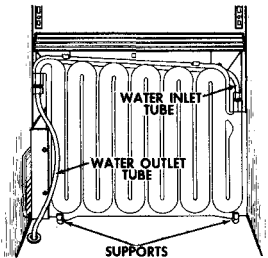

Figure 36 - Water Line Connections
4. Remove the two water line compression nuts on each side of the reservoir. See Figure 36.